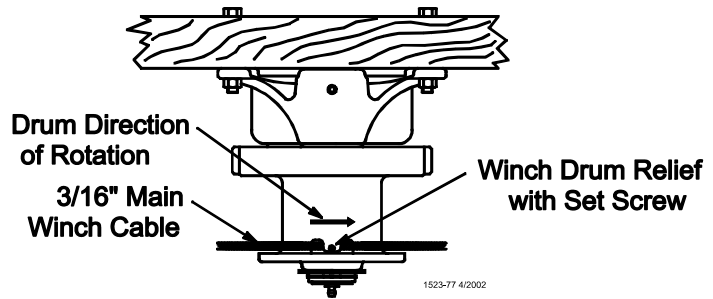

Figure 10. Attaching the cable to the Power Winch
- Route the cable through the Winch Drum Relief located near the bottom of the drum. Tighten the set screw to anchor the cable to the drum. See Figure 10.